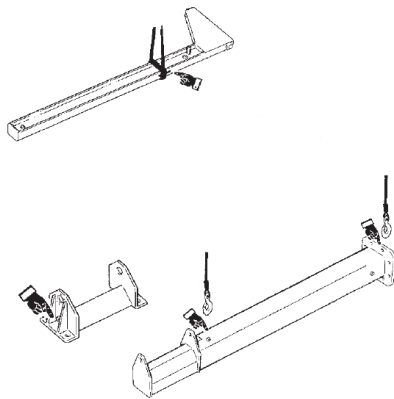

fig.11
- Sling the parts of the crane with suitable equipment so as not to damage the painted surfaces: (fig.11)